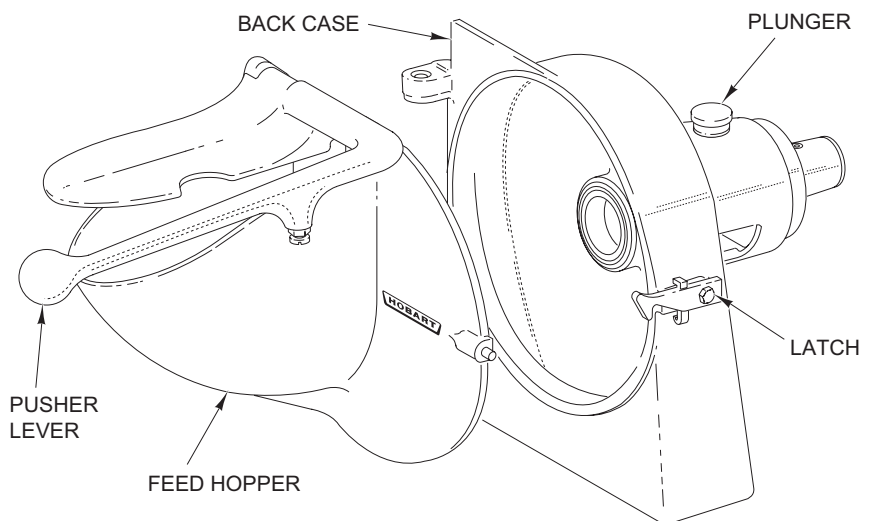

Fig. 1
The back case (Fig. 1) mounts into the attachment hub of a mixer, chopper, food cutter, or power drive and is retained by a thumb screw of that machine. It is available with a #12 size hub.
The standard front is the feed hopper and pusher lever (Fig. 1) feed design. It hinges onto the back case and is held with a latch (Fig. 1). To remove front, lift latch, swing front open, and raise from hinge holes. The pusher lever is held in the feed hopper by a large pin. To remove pull the pin ring.
Open front, lift plunger (Fig. 1) and slide the adjustable slicer plate (Fig. 2) into operating position. Slicing thickness may be adjusted from approximately $\frac{1}{16}$ " to $\frac{5}{8}$ " by turning the adjusting nut (Fig. 2), without removing unit from its assembled position. The easy accessibility of this adjustment makes it possible to vary the slice thickness to suit the user's preference.
2. Attach back case (Fig. 1) of the slicer to attachment hub of companion machine and secure with the thumb screw.
4. Select accessory (such as adjustable slicer plate) to be used. Lift plunger (Fig. 1) and insert rotating unit into drive position. Release plunger.